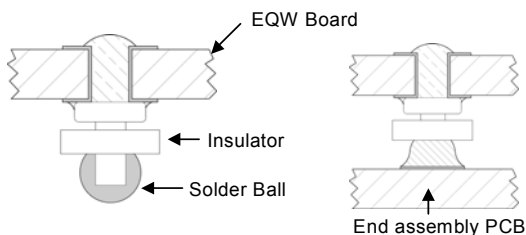

Figure 66. Column Pin Connector Before and After Reflow Soldering.
The surface mountable modules in the EQW family use our newest SMT technology called “Column Pin” (CP) connectors. Figure 66 shows the new CP connector before and after reflow soldering onto the end-board assembly.